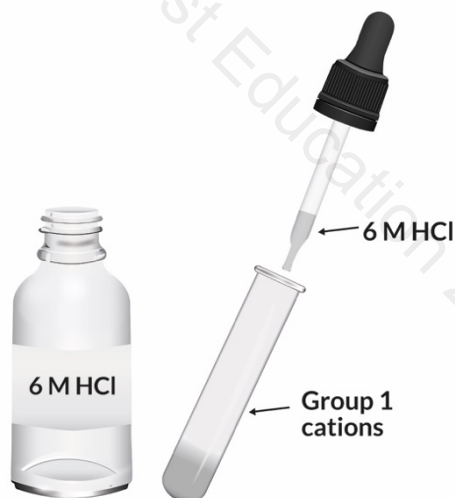

Figure 4 Precipitation of Ag^+
1. **Precipitate the Silver Ion.** Place ~ 2 mL of the *original* reference solution in a small test tube, add 4-5 drops of 6.0 M HCl (Figure 4) until no further evidence of precipitation occurs.[4] (**Caution:** *Handle acid with care.*) Stir with a stirring rod and centrifuge the mixture. Test for complete precipitation by adding 1-2 additional drops of 6.0 M HCl. Ask your instructor about the safe operation of the